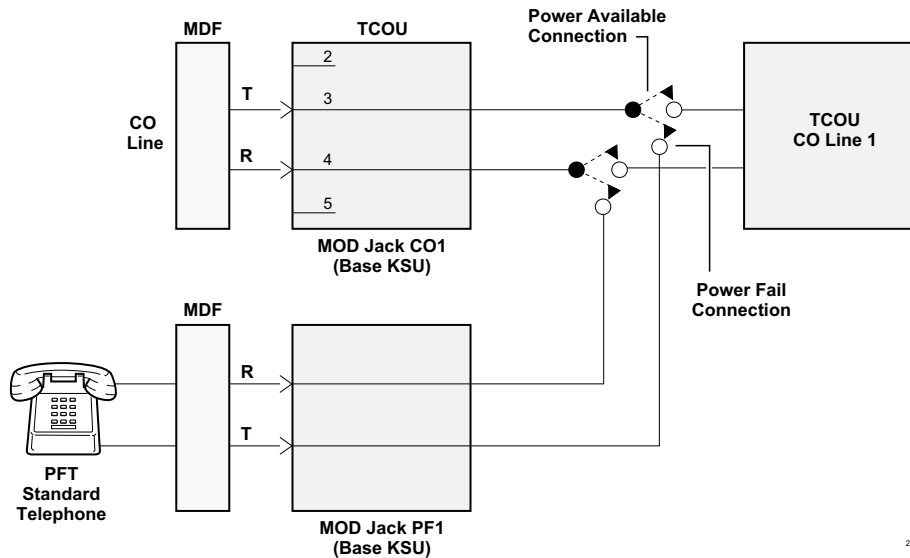

Figure 3-13 Base KSU Power Failure Transfer (PFT) Circuit Diagram
- ▶ Connect a standard telephone to the PF1 connector in the Base KSU (see Figure 3-13).